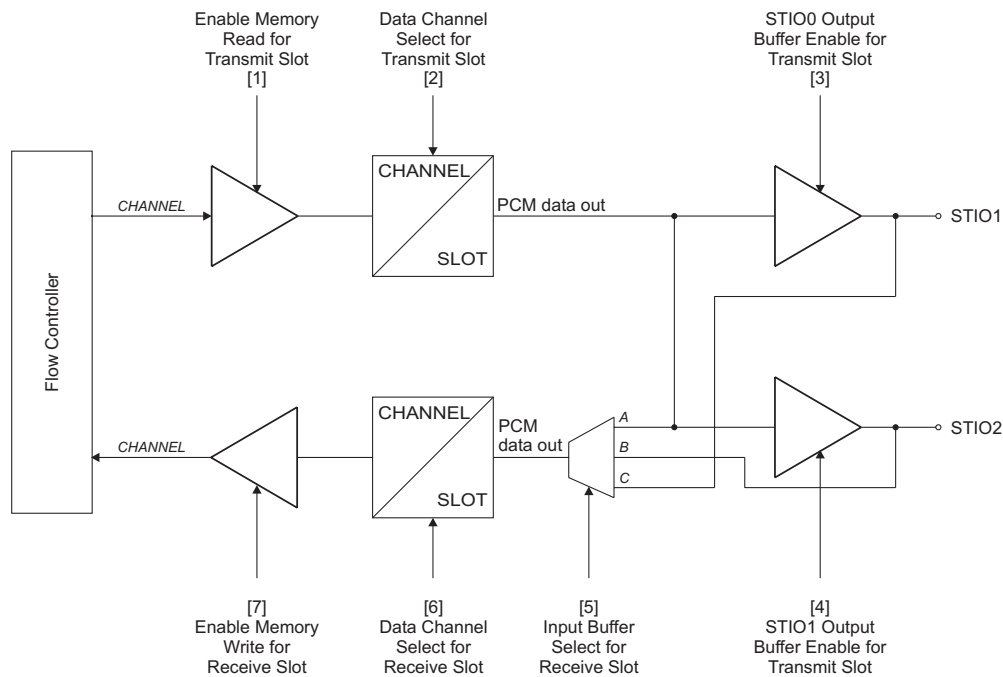

Figure 6.1: PCM interface function block diagram
The PCM interface has up to 32, 64 or 128 time slots for receive and transmit data depending on the PCM clock frequency and the selected mode. The functional block diagram is shown in Figure 6.1.
**Table 6.3:** PCM interface configuration with bitmaps of the register *A\_SL\_CFG* (The reference numbers relate to the numbers given in Figure 6.1)